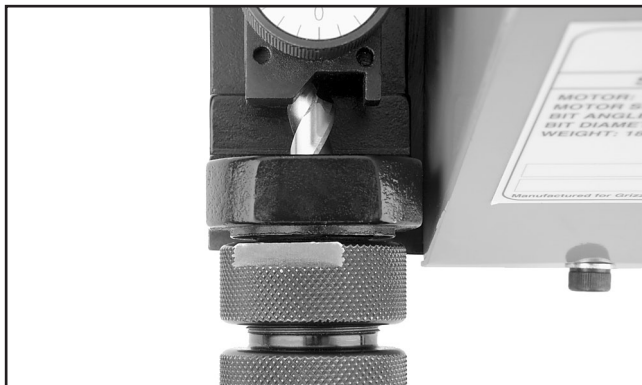

Figure 13. Drill bit positioned in calibrating device, top view.
6. Turn the collet holder clockwise until it stops, push the bit forward as far as it will go into the calibrating device, then turn the bit clockwise until it stops, as shown in **Figure 13 & 14**.